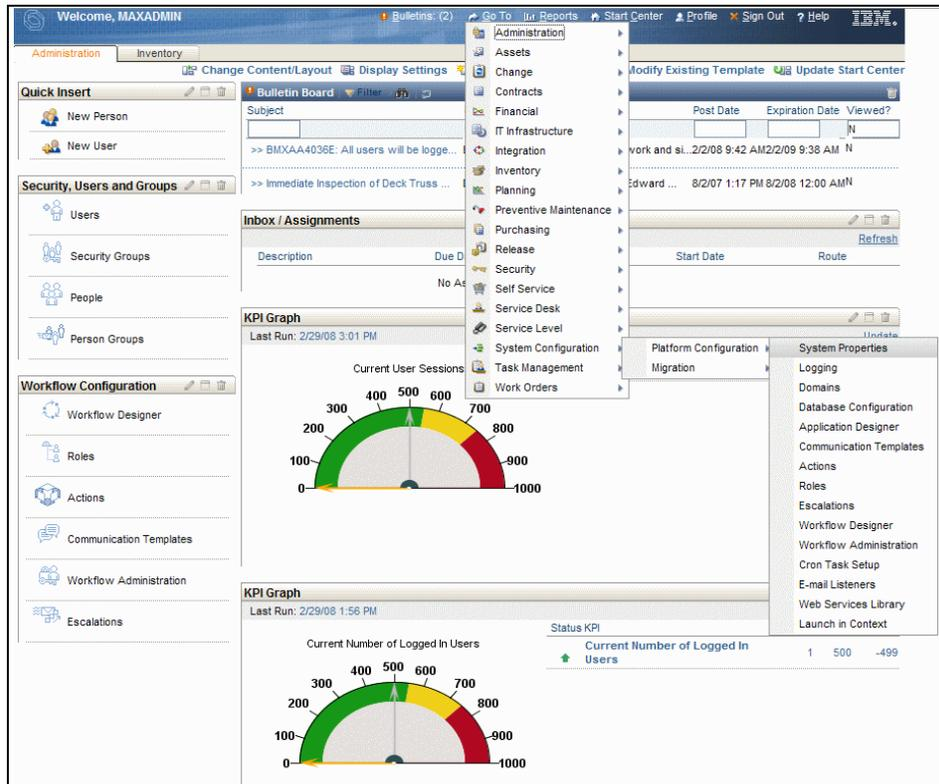

Figure 7-4 Properties configuration
1. Select **Go To** → **System Configuration** → **Platform Configuration** → **System Properties**, as shown in Figure 7-4 on page 206.